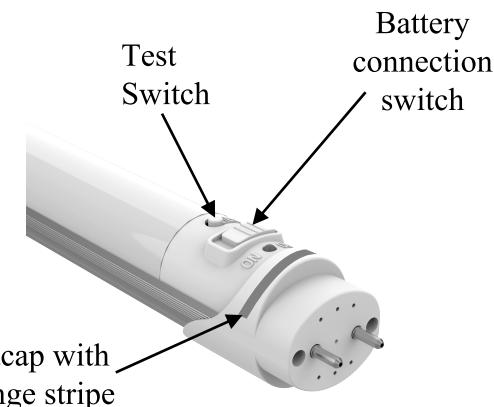

Fig. 2
8. **IMPORTANT:** Turn on a battery connection switch near the endcap with the orange stripe. The battery connection switch comes with a default "off" to prevent the built-in battery from being depleted and damaged. The lamp may be lighted in a dimmed light level powered by the built-in battery (see Fig. 2).